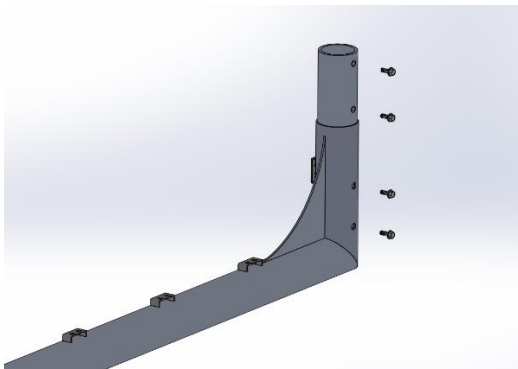

Figure 4A
4. With the goal remaining face down, connect the lower stubs to the inside of each end frame using (2) 3/8"-16x1" serrated hex bolts per side (Figs. 4A & 4B). **Note: Do not tighten hardware until all bolts are in place.** Repeat for opposite side.